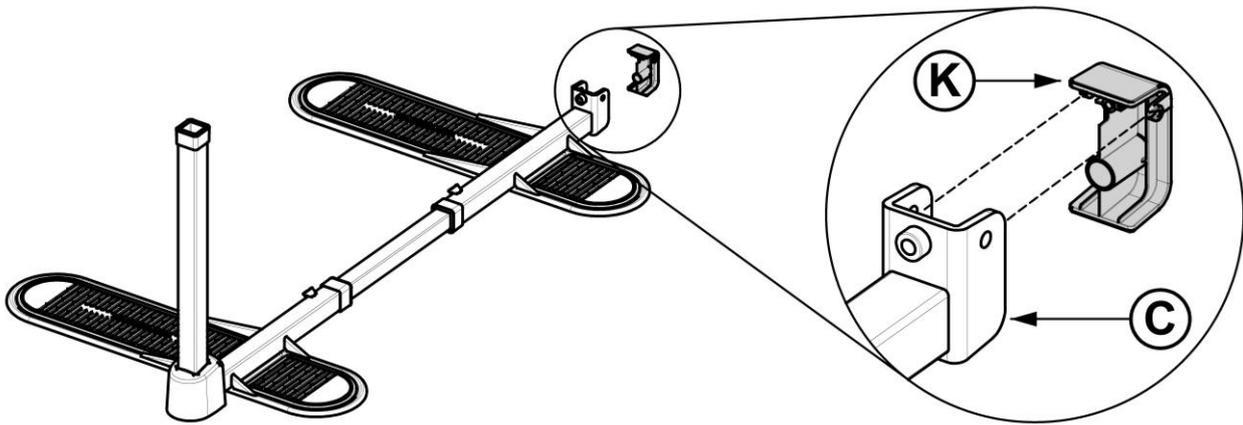

FIGURE 21
21. Attach Cap K to Base C, as shown in *FIGURE 21*.